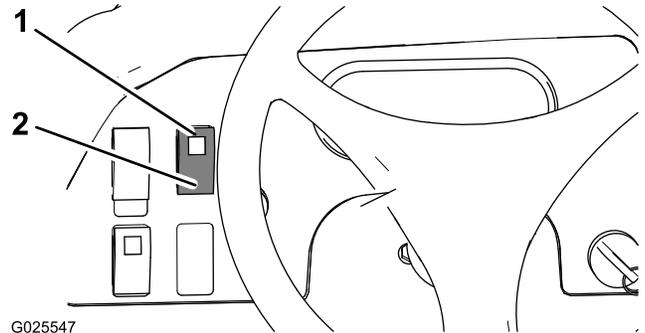

Figure 34
- Press the differential-lock switch up to lock the differential (Figure 34).
- Press the differential-lock switch up to unlock the differential (Figure 34).